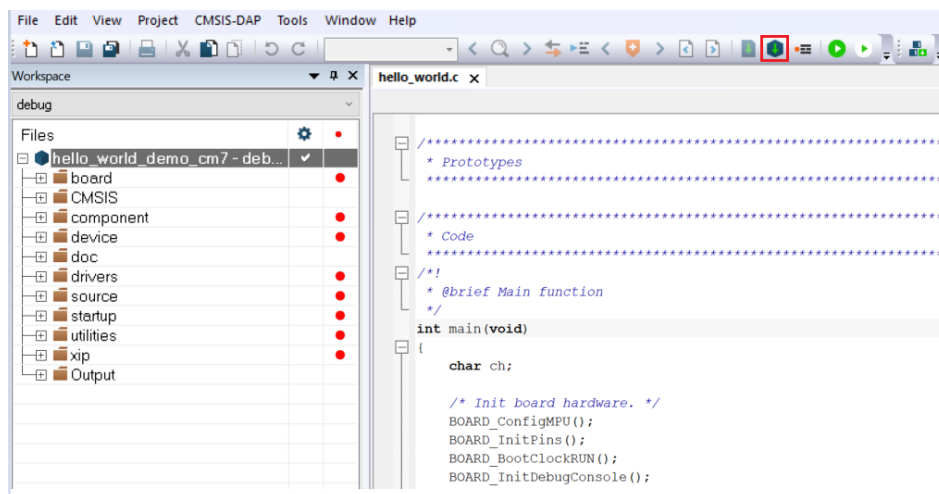

Figure 26. Build the demo application
3. To build the demo application, click **Make**, highlighted in red in Figure 26.